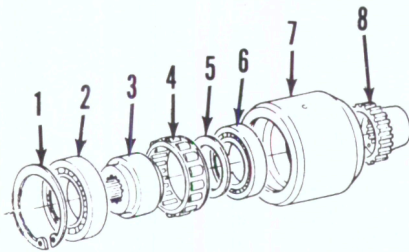

Fig. 146—Exploded view of pto overrunning clutch used on Models L185 and L285. Model L245 is similar except washer (5) and splined coupling (8) are not used.
A sprag-type overrunning clutch (Fig. 146) is used on Models L185, L245 and L285. With clutch installed on pto countershaft, clutch case (7) and rear coupling (8) should turn freely and smoothly in a clockwise direction but should not turn counterclockwise. If trouble is experienced, disassemble unit and examine internal clutch surface of case and outer surface of front coupling (3) for ridging or scoring. Renew components if damage is found. Be sure new sprag unit (4) is reinstalled correctly as engaging action will be reversed if sprag unit is reversed. Check for correct rotation as previously outlined when unit is reassembled.